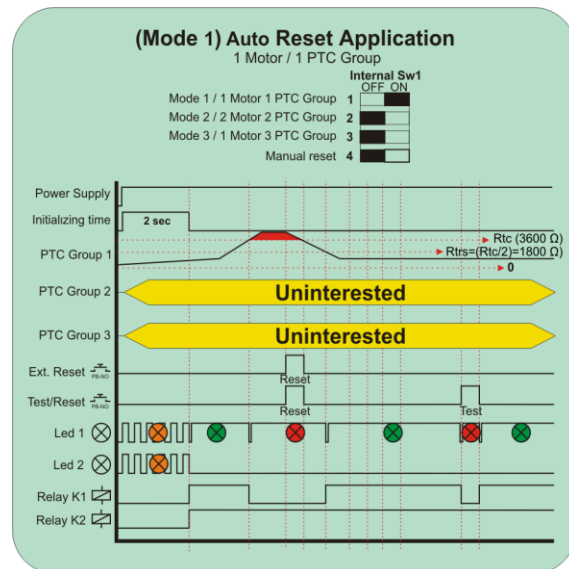

fig. 12
- At Auto reset mode, the LED remains red until the temperature drops below T_C and $R < R_{TRS}$. (fig. 12,13,14)